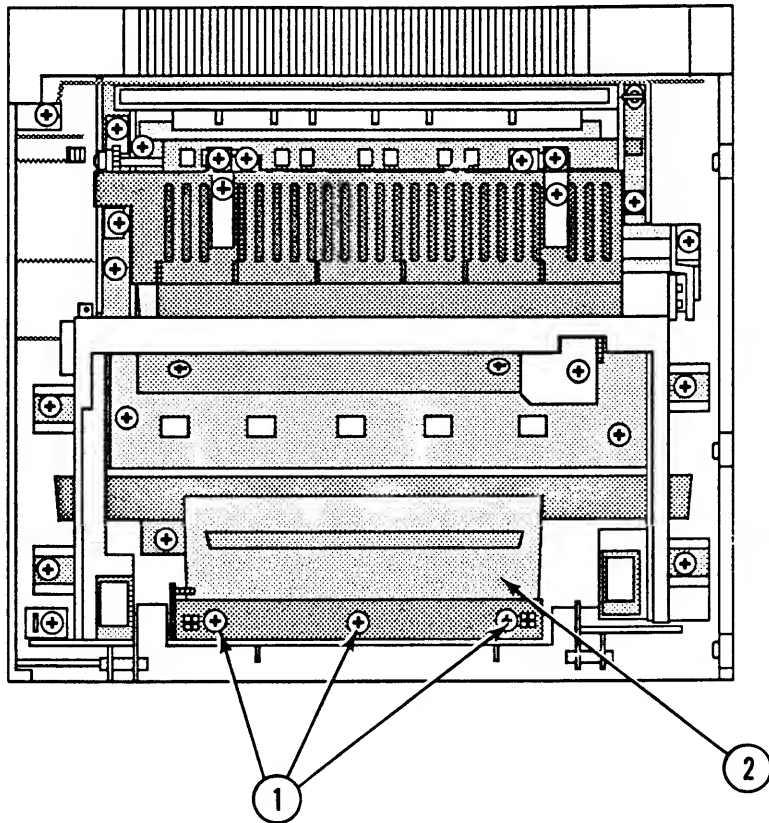

FIGURE 71
2. Remove the three Phillips screws (Figure 71, #1) that secure the shutter assembly (Figure 71, #2) to the top cover.